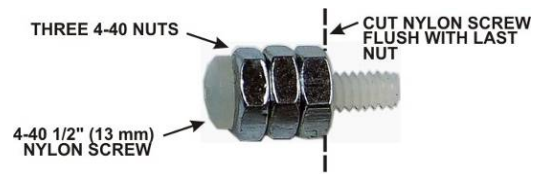
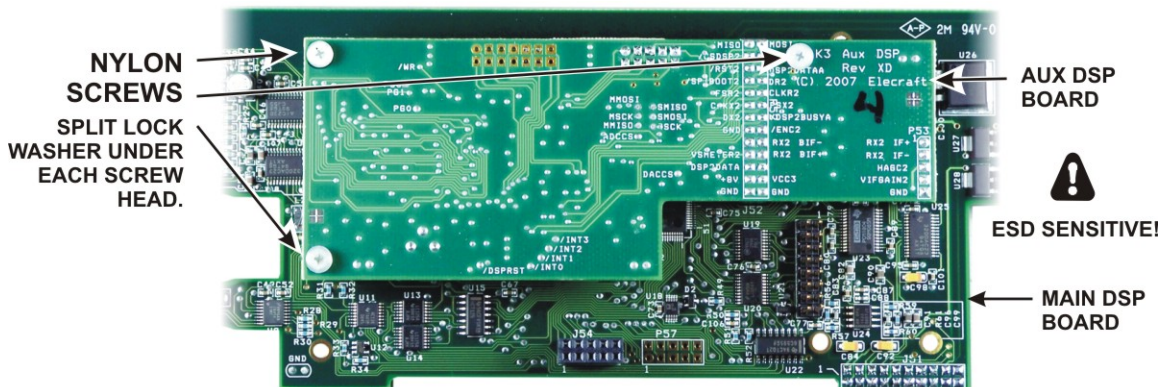

Figure 13. Cutting 1/2" (13mm) Nylon Screws.
Figure 18. Mating the Main and Auxiliary DSP Boards.
- Screw three 4-40 nuts onto the 1/2" (13 mm) 4-40 nylon screw as shown in Figure 13.
□ Plug the aux DSP board into the main DSP board by mating P52 and P53 on the aux DSP board (at the narrow end) with J52 and J53 on the main DSP board. When seated, the connectors should be fully engaged with the aux DSP board resting against the standoffs with the holes in the board aligned for the screws (See Figure 18). Note that a two-row 10-pin connector at the top of the aux DSP board does not mate with anything on the main DSP board. That is normal. Attach the boards with three 4-40 1/4" (6.4 mm) *nylon* screws or the nylon screws you trimmed to length earlier (see Figure 13). Place a split lock washer under each screw head. Do not place washers between the standoff and the pc board. ***Be careful tightening the nylon screws. Their threads strip easily!***